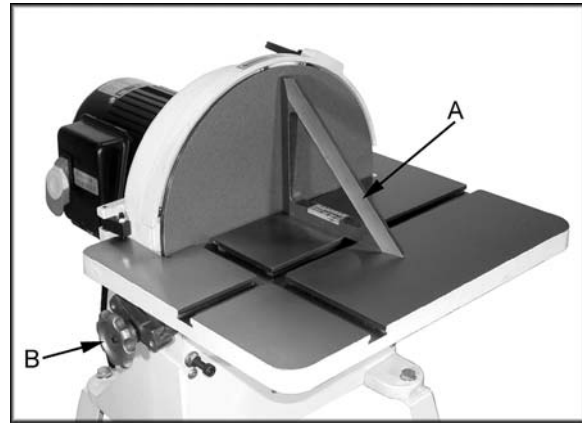

Figure 4
2. Loosen lock knobs (B, Figure 4) and move the table to the 90 degree position. Tighten knobs and place a square (A, Figure 4) against the table and disc. The square should rest flat against the table and disc.